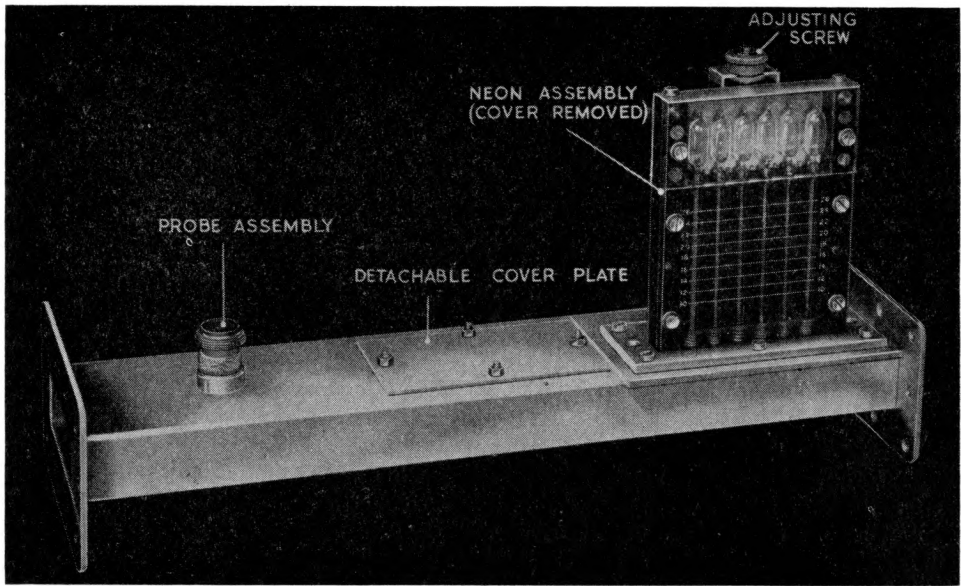

Fig. 8. Output tester Type 65 : general view
Output tester Type 65 (fig. 8)
26. Output tester Type 65 is a high-power standing-wave indicator and power measuring device for the band 9.8 to 10.2 cm. It consists of a short length of 3 in. $\times$ 1 in. waveguide with six neon tubes (CV360), of special design, arranged along the 3 in. face and backed by a graduated scale as shown in fig. 8. In practice the output tester forms a section of the waveguide run and is located immediately above the transmitter box.